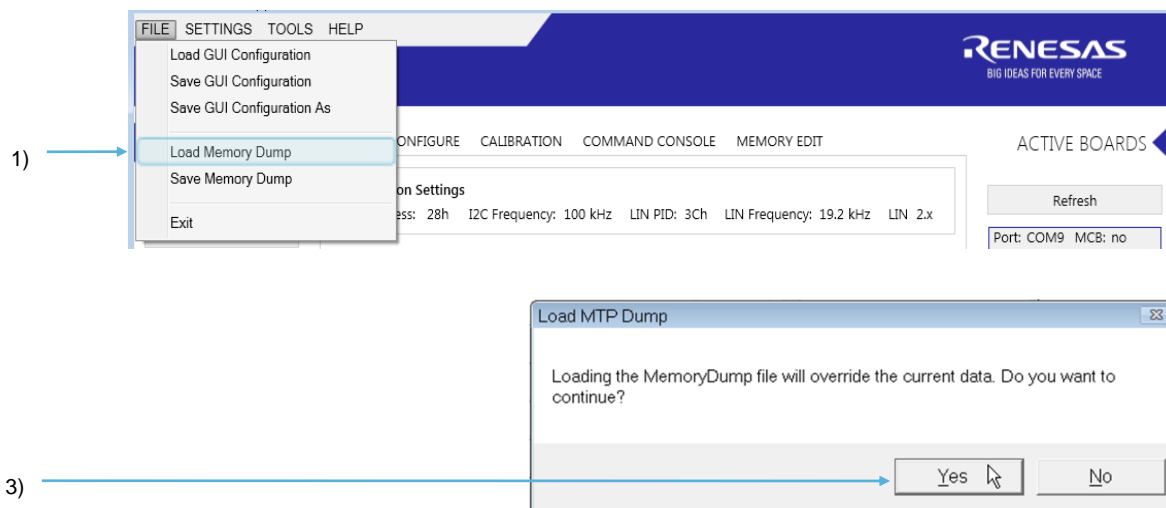

Figure 17. Load the RAM Shadow Data into GUI
1. Select FILE > Save Memory Dump to save a file containing the IC memory data (see Figure 17).
1. Select FILE > Load Memory Dump to load a file containing the IC RAM Shadow memory data (see Figure 17).